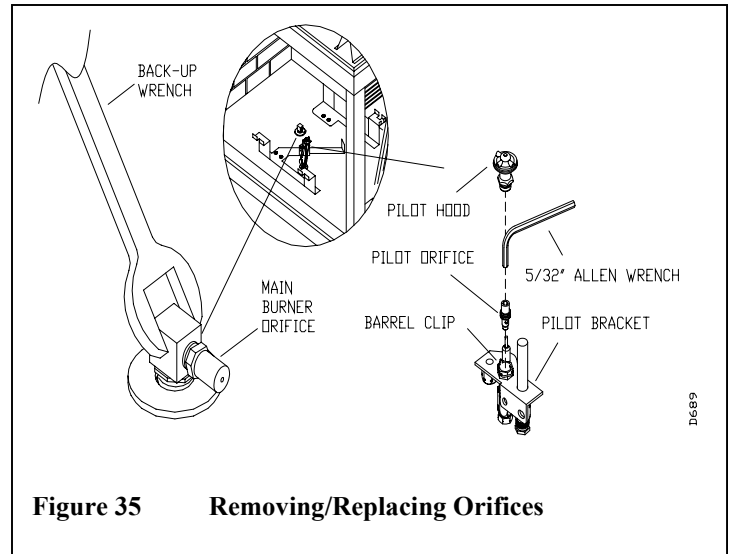

Figure 35 Removing/Replacing Orifices
Using a 7/8" open end or an adjustable back-up, wrench on the orifice mount remove the main burner orifice with a 11/16" open end wrench. (See figure 35).
1. Remove the pilot hood by pulling up until it disengages from the barrel. Do not remove the barrel clip (see figure 35).